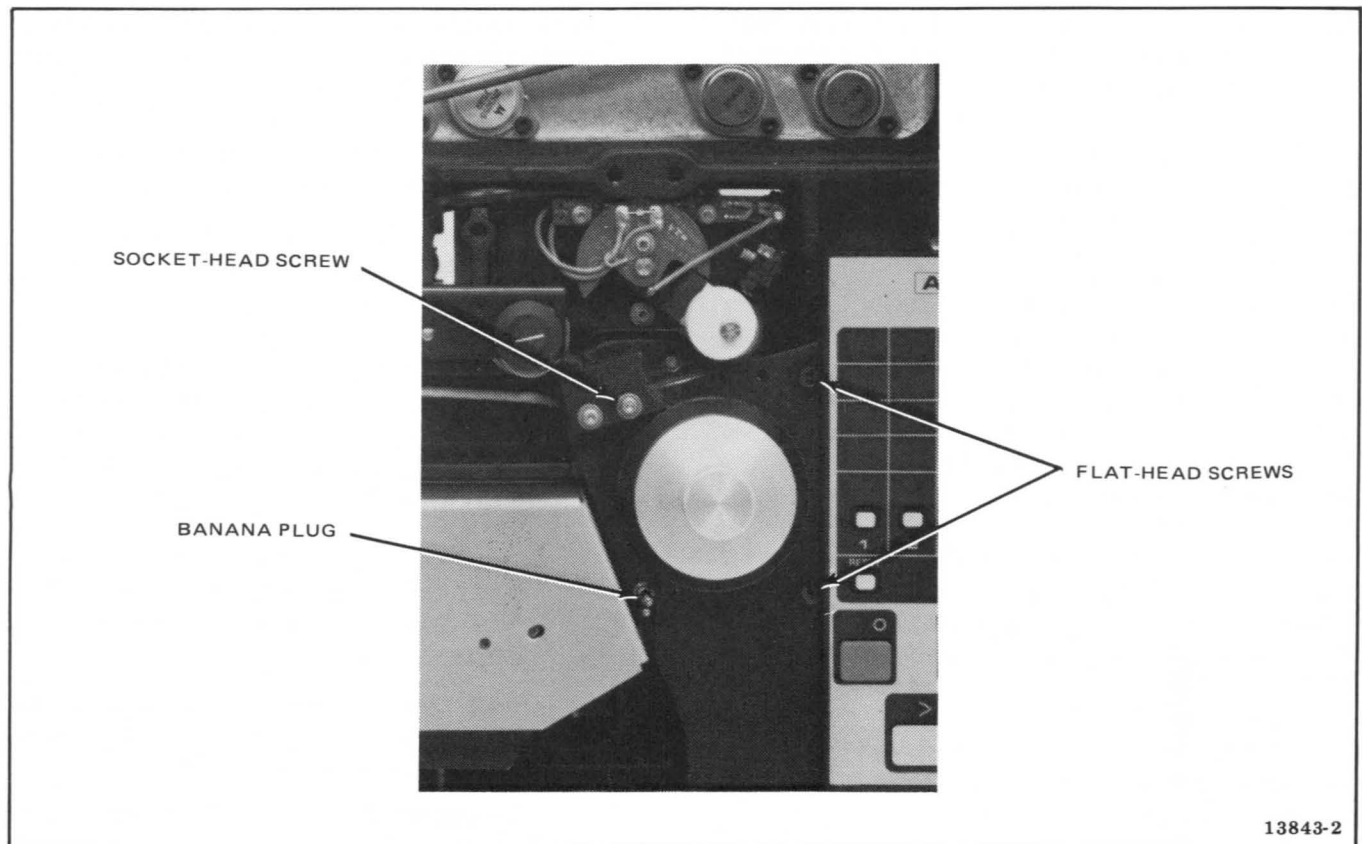

Figure 5-21. Front and Rear Tach, Cover Panel Removal
15. Remove front tach cover panel by removing one flat-head screw and banana plug shown in Figure 5-21.